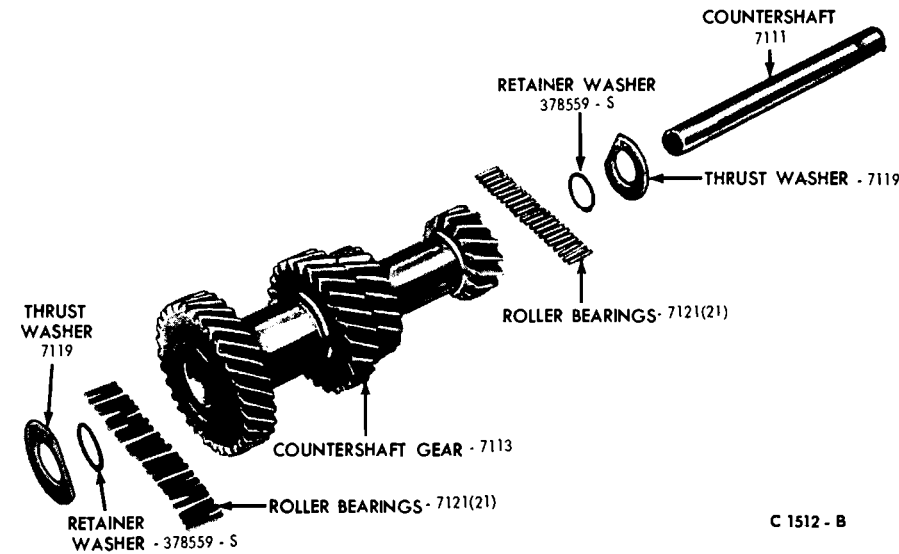

FIG. 17—Countershaft Gear Disassembled
1. Coat the countershaft gears thrust surfaces in the case with a thin film of lubricant and position a thrust washer (Fig. 17) at each end of the case.